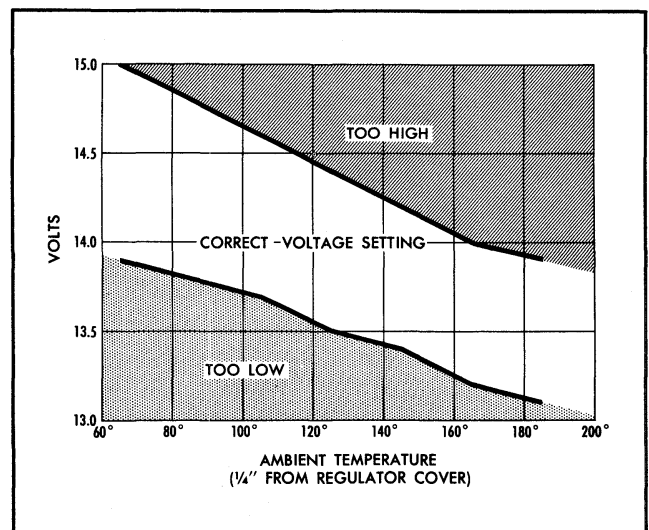

Fig. 11-43 Temperature Correction Chart
e. Bring engine speed up to 2500 rpm (approximately 6000 generator rpm) and note the voltage setting (refer to Fig. 11-43). The regulator should be operating on the upper or shorting contacts. If it will not operate on the upper contacts, the battery is in an extreme state of discharge, and must be at least partially recharged before proceeding. The methods of identifying upper or lower contact operation are covered in step I.
I. After making voltage setting while operating on the upper set of contacts, check the voltage setting while operating on the lower set of contacts as follows: Slowly increase the resistance of the variable resistor with the engine operating at 2500 rpm (approximately 6000 generator rpm) until the regulator begins to operate on the lower set of contacts. Then note the voltage reading, and refer to Fig. 11-43. **NOTE:** If turning the variable resistor does not cause the regulator to operate on the lower set of contacts, return the variable resistor to the "no resistance" position, turn the carbon pile to slightly load the battery, and then adjust the variable resistor to cause the regulator to operate on the lower set of contacts. Usually, turning on the vehicle headlights can substitute for the carbon pile.
Compare with Fig. 11-43.